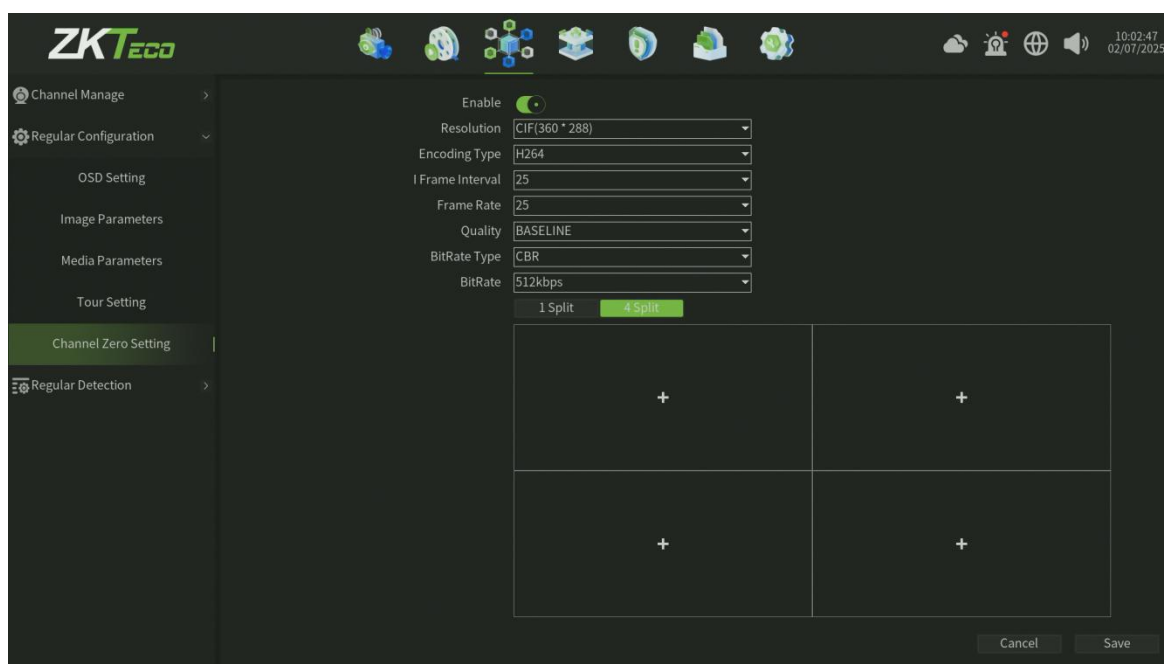

Figure 6.11 Channel Zero Setting
1. Enable the Channel Zero Setting interface, as shown in figure 6.11.